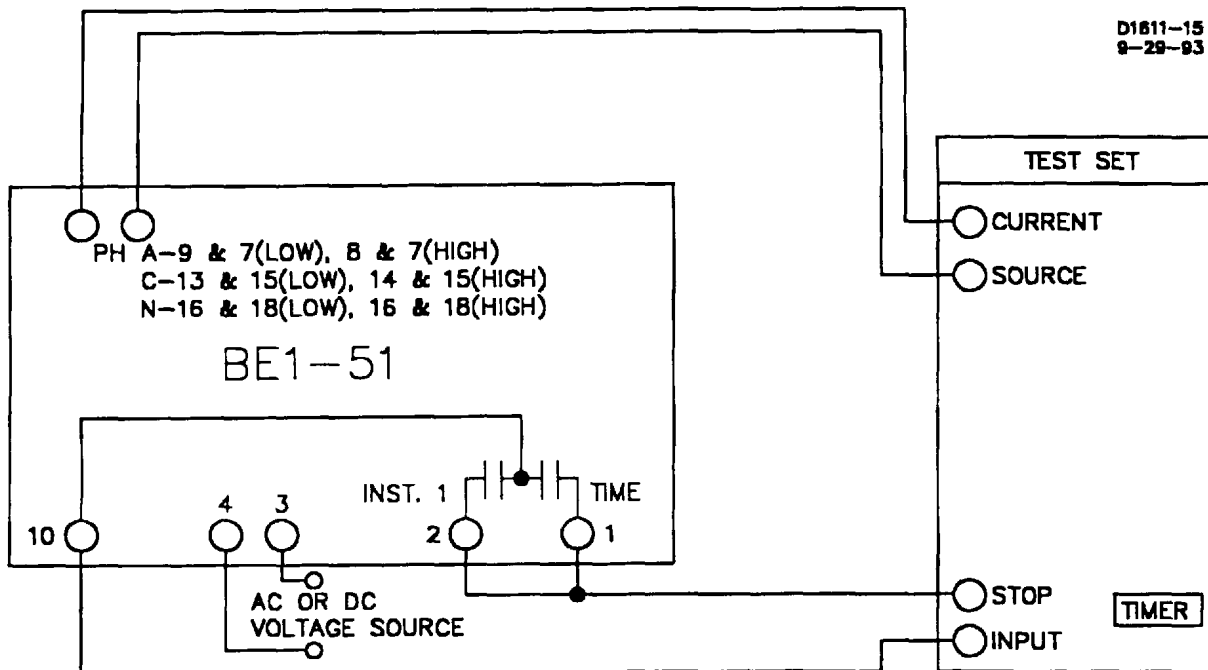

Figure 5-4. Test Setup for Sensing Input Type I or X (Two-Phase with Neutral Sensing)
- (d) Sensing Input Type I or X (Two-Phase with Neutral Sensing). Refer to Figure 5-4. Ensure that the timed output terminals 1 and 10 are connected. Also, verify that either A, B, or C current sense terminals are connected initially (N terminals will be connected later in the test).
- Step 4. Adjust the front panel **INST 1** and **INST 2** controls, if present, fully clockwise (CW).
- (b) Sensing Input Type I or X (Two-Phase and Neutral Sensing). Remove the power and reconnect the input sensing to the remaining phases as shown in Figure 5-4, each time repeating Steps 1 through 10. For neutral testing continue with Step 12.